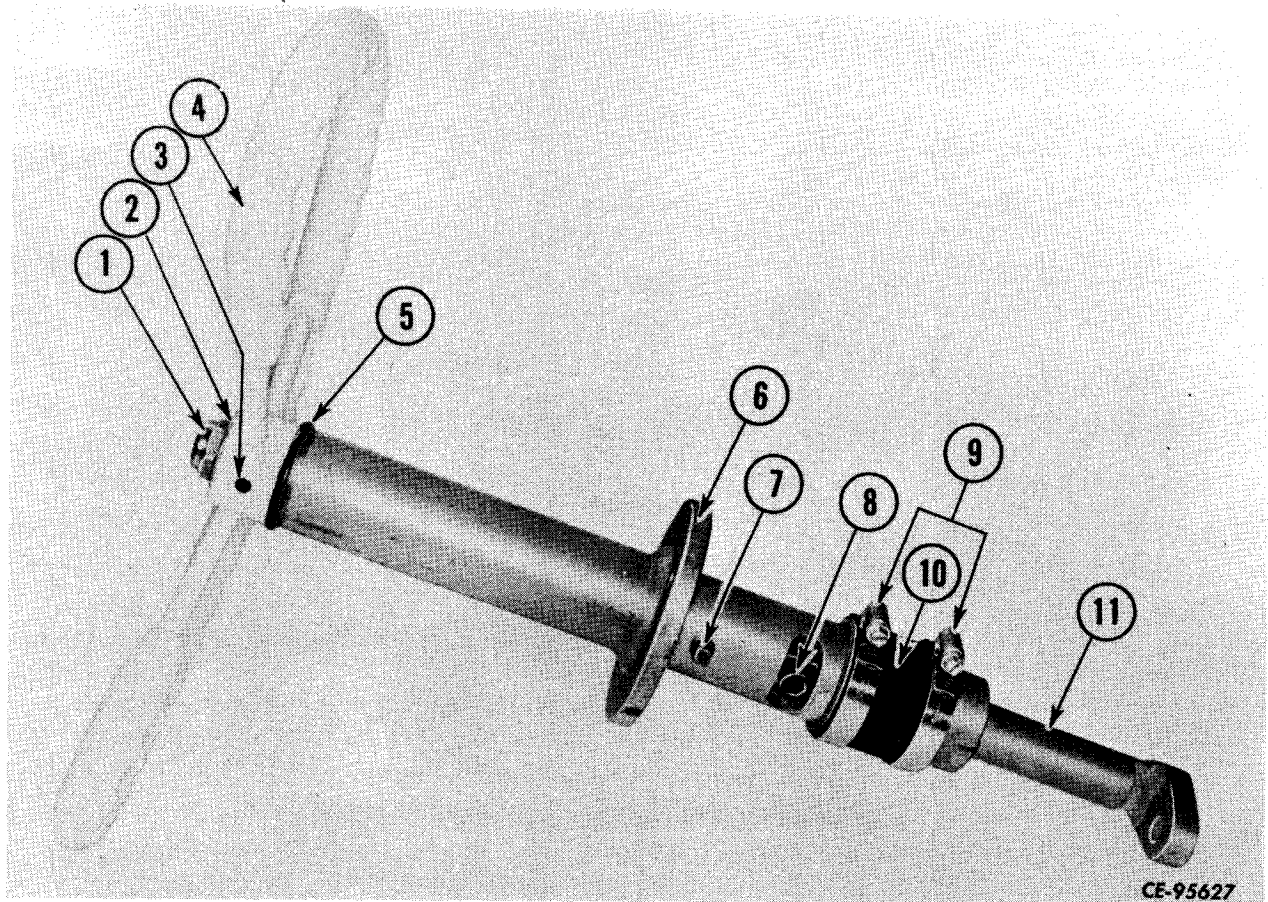

Figure 8-1
The steering gear consists of a steering wheel (4, Fig. 8-1) keyed to the steering gear shaft (11). With a limited movement of the steering gear shaft the steering valve is actuated to desired spool position. When the wheel is released, the spring loaded valve spool centers the steering wheel.
To disassemble the steering gear assembly, place gear in vise and remove nut (1, Fig. 8-1) and flat washer (2). Remove set screw (3) and using a suitable puller, remove steering wheel (4) from shaft (11). Remove thrust washer and seal ring (5). Loosen hose clamps (9) and slide sleeve (10) back exposing stop bolt (8). Remove stop bolt (8) and pull shaft (11) from column (6). Check the condition of the teflon bushings inside the ends of the steering column (6). If bushings are worn or damaged replace with new bushings.